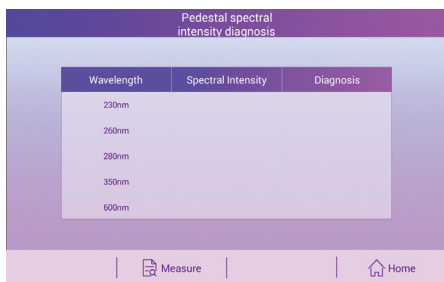
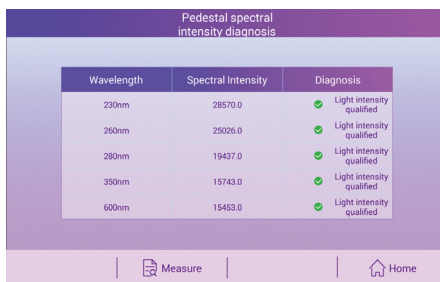

Figure 28
Figure 29
- (1) Click "Base Spectral Intensity Diagnosis" on the interface of "Instrument Diagnosis" to enter the interface of "Base Spectral Intensity Diagnosis", as shown in Figure 28.
- (2) Without adding any reagent to the base, click the "Measure" on the screen.
- (3) After the testing, observe the green  **Light intensity qualified** icon in the diagnosis bar in Figure 29, and the base light intensity diagnosis is passed; If the red  **Unqualified light intensity** icon appears, please contact our after-sales technicians for cooperation in troubleshooting.